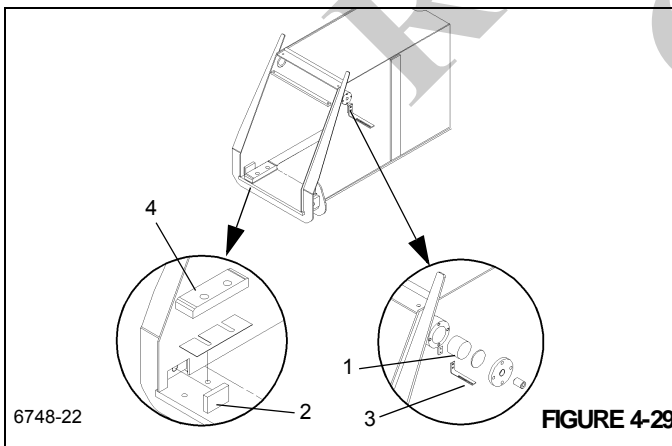

FIGURE 4-29
9. Remove the two screws securing each top (Figure 4-29, 1) and bottom (Figure 4-29, 2) side wear pads at the front of the outer mid. Remove wear pads, shims, and mounting angle (Figure 4-29, 3) (top left side only).